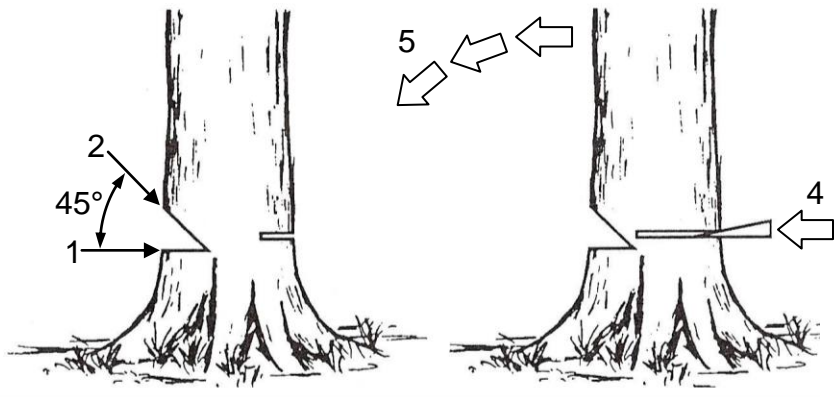
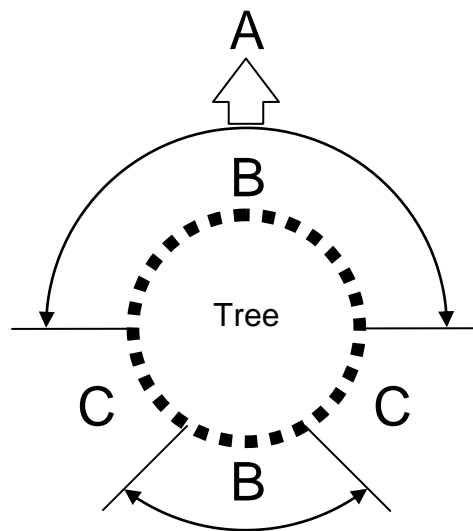

Figure 18
Figure 21
FELLING A TREE (Fig. 18 & Fig. 21)
- Ensure that there is an escape path as shown in figure 21.
- First determine in which direction the tree is to be felled. Decide by considering the wind, lean of the tree, location of heavy branches, ease of job after felling and other factors. The felling notch is cut on this side of the trunk (Fig.18 No.1&2).
- First cut 1/3 of the trunk diameter horizontally into the tree at the intended felling notch (Fig.18 No.1).
- Now cut the second part of the felling notch from above at an angle of 45 degrees to the first cut (Fig.18 No.2).
- Now make the felling cut exactly opposite to the felling notch. The felling cut must run horizontal and at a level slightly higher than the bottom of the felling notch (Fig.18 No.3).
- Put wedges into the felling cut to bring the tree to fall (Fig.18 No.4). Note the felling direction of the tree (Fig.18 No.5).